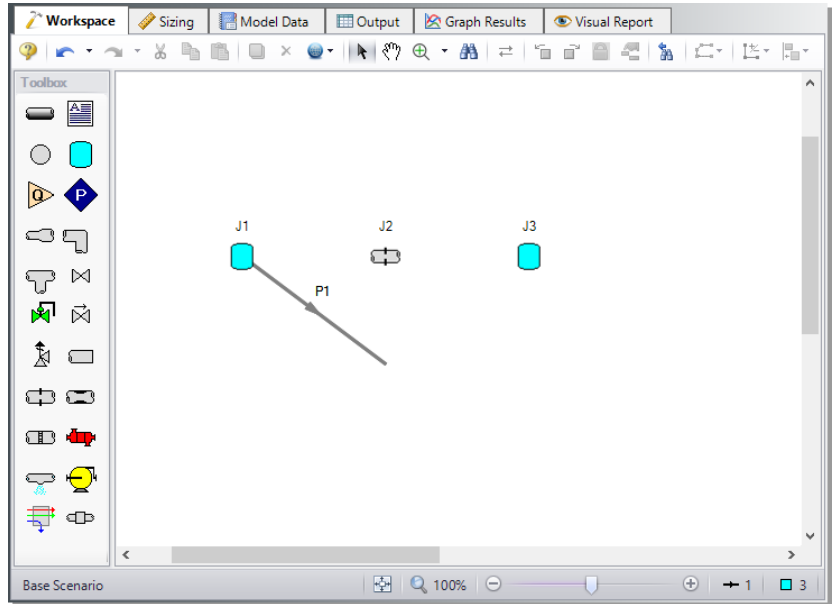
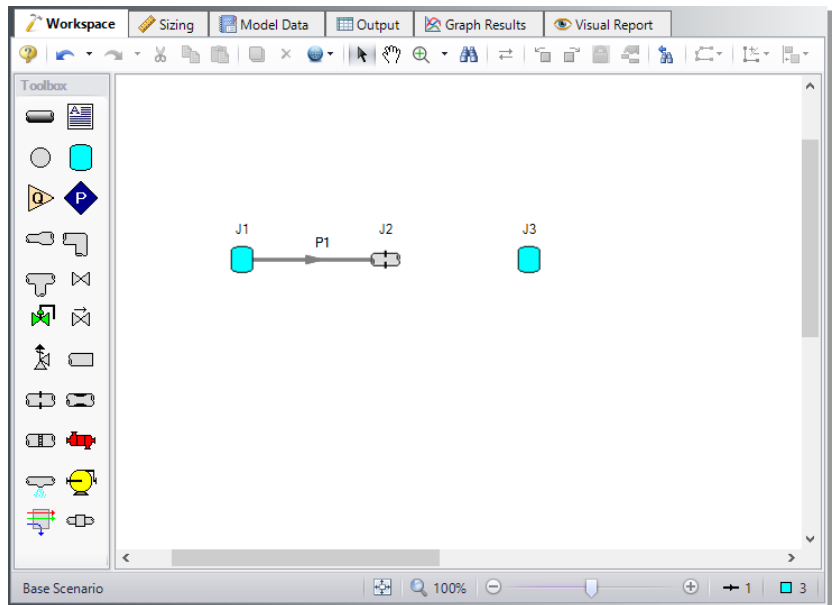

Figure 2.3d Walk through model with the pipe partially connected
Figure 2.3e Walk through model with the first pipe connected
- **To place the pipe between J1 and J2**, use the mouse to grab the pipe in the center, drag it so that its left endpoint falls within the J1 Tank icon, then drop it there (see Figure 2.3d). Next, grab the right endpoint of the pipe and stretch the pipe, dragging it until the endpoint terminates within the J2 Orifice icon (see Figure 2.3e).